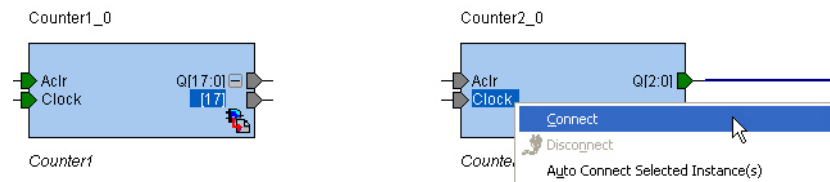

Figure 1-20 • Connecting a Sliced Port to a Clock Input
18. Click the + sign on **port Q** of **Counter1_0** to expose the slice created in the previous step. Connect port **Q[17]** of **Counter1_0** to the clock input (**Clock**) of **Counter2_0** (Figure 1-20).